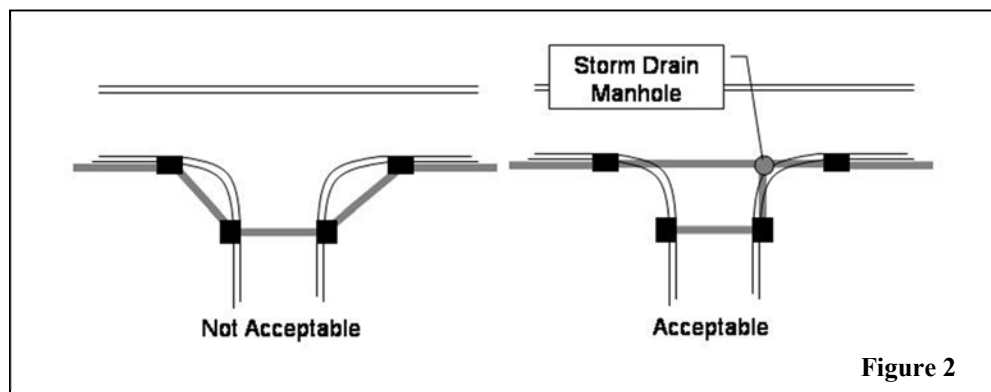

Figure 2
- g. Storm drainage lines shall cross under streets at right angles. Storm drainage lines greater than 18" are not to cross diagonally under the radii at intersections as illustrated below in Figure 2. Engineer must show that lines less than 18" crossing radii diagonally can be fully maintained within the right-of-way or dedicated easement and the easement shall not encroach on a building envelope.